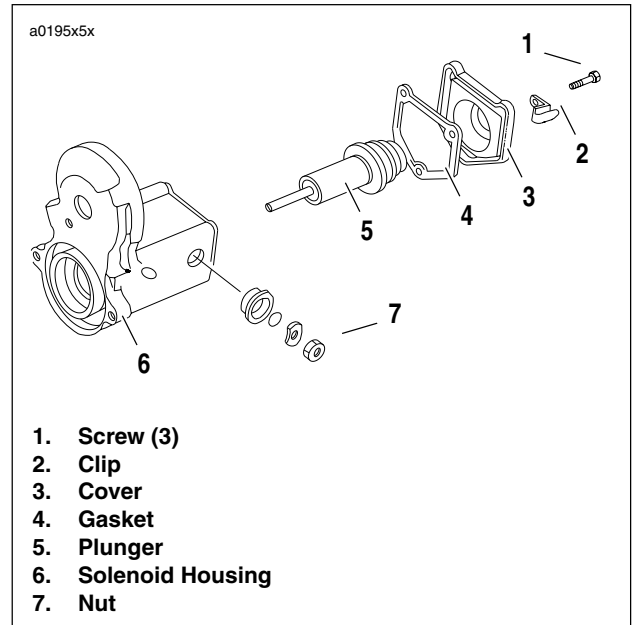

Figure 5-30. Starter Solenoid
See Figure 5-30. Do not tighten nut (7) without removing items 1-5. Movement will cause damage to the contact.
1. See Figure 5-30. Remove screws (1) and clip (2).
2. Remove cover (3) and gasket (4). Discard gasket.
3. Remove plunger (5) from solenoid housing (6).
1. See Figure 5-30. Replace wire connection hardware as necessary.
2. Install plunger (5) in solenoid housing (6).
3. Install **new** gasket (4) onto cover (3).
4. Position cover with gasket onto solenoid housing. Install clip (2) and screws (1).